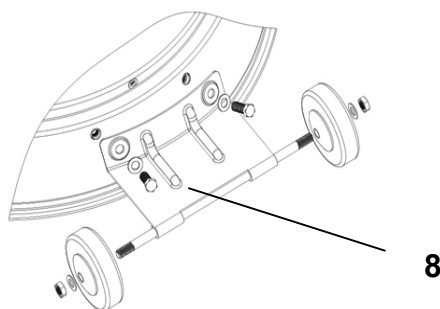

Figure 4
- SETP 8:** Collect the wheels parts together and fix the wheels to the base. (See Figure 4)